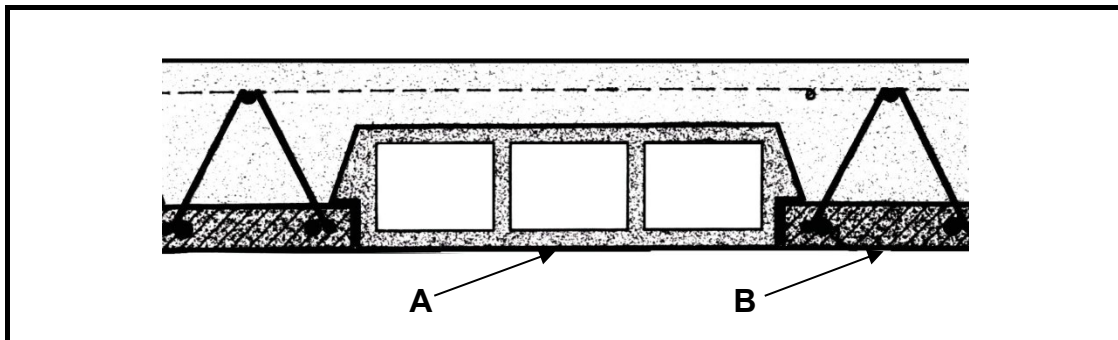

FIGURE 6.4
- 6.4 Answer the following questions about the floor construction in FIGURE 6.4.